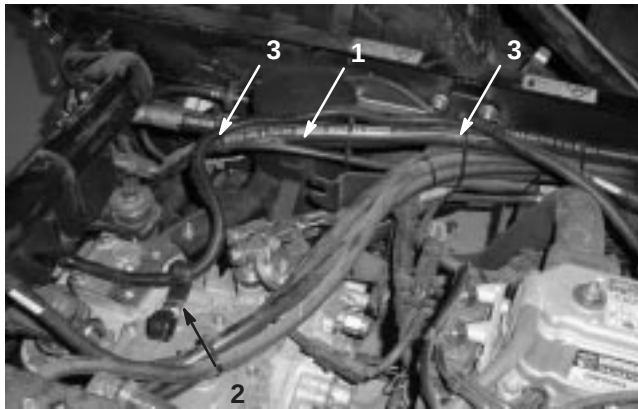

Figure 5
- Route the ring terminal end of the power wire harness to the tow vehicle battery (Fig. 5 & 7).
- Secure the harness to the tow vehicle with wire ties at locations shown in figure 5.
- Install (2) J-Clips to the top of the transmission with a 8 mm x 2 screw (Fig. 5).
- Route the harness thru the left J-Clip as shown in figure 5.